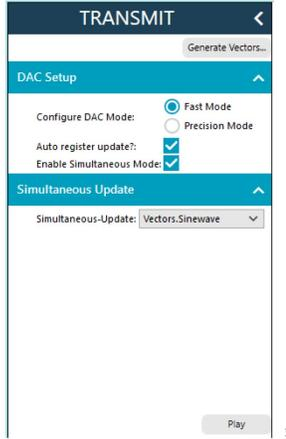

Figure 14. Waveform Generation in Simultaneous Mode
- ▶ **Enable Simultaneous Mode**: this checkbox allows playing the same samples on both channels. Data is written to the DAC page register. Therefore, it maintains the same update rate as for a single channel. When this box is checked, the waveform is selected in the **Simultaneous Update** menu as seen in Figure 14.